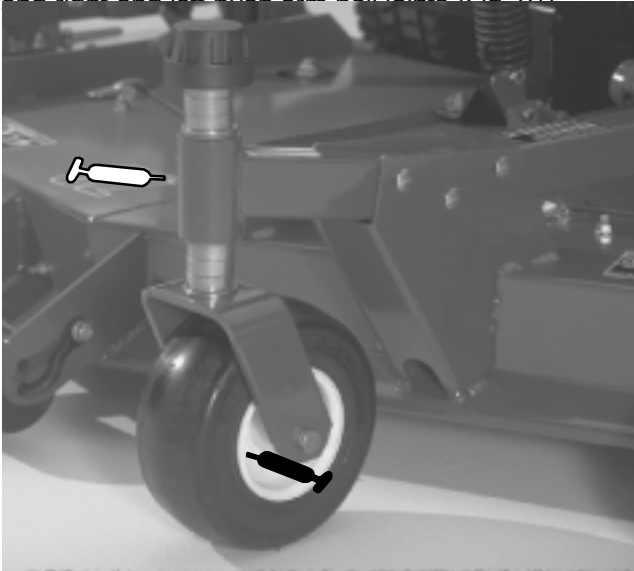
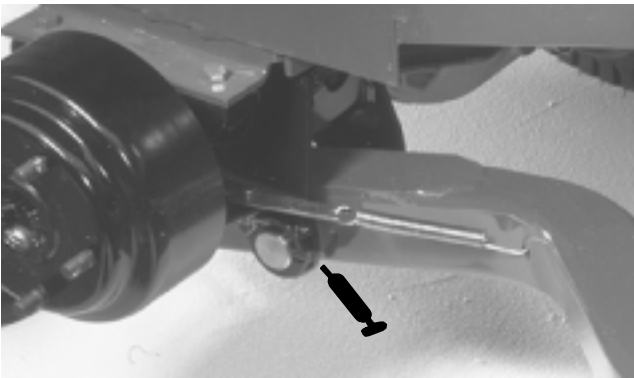
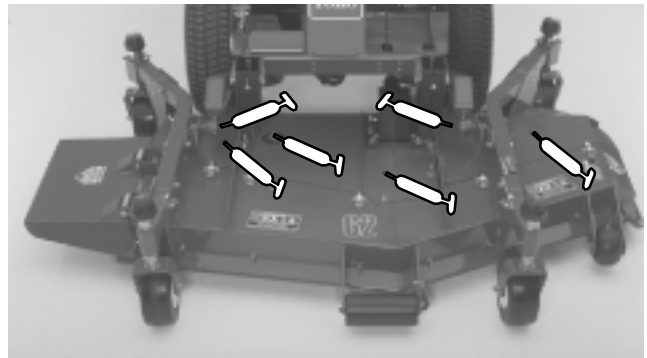

Figure 19
Figure 20
Figure 21
GREASE BEARINGS, BUSHINGS AND GEAR BOX (Fig. 19–22)
1. The cutting unit has bearings and bushings that must be lubricated, and these lubrication points are: front castor spindle bushings (Fig. 19); front and rear castor wheel bearings (Fig. 19); right and left lift arm pivot pins (Fig. 20); blade spindle bearings (Fig. 21); and right and left push arms ball joints (Fig. 21).